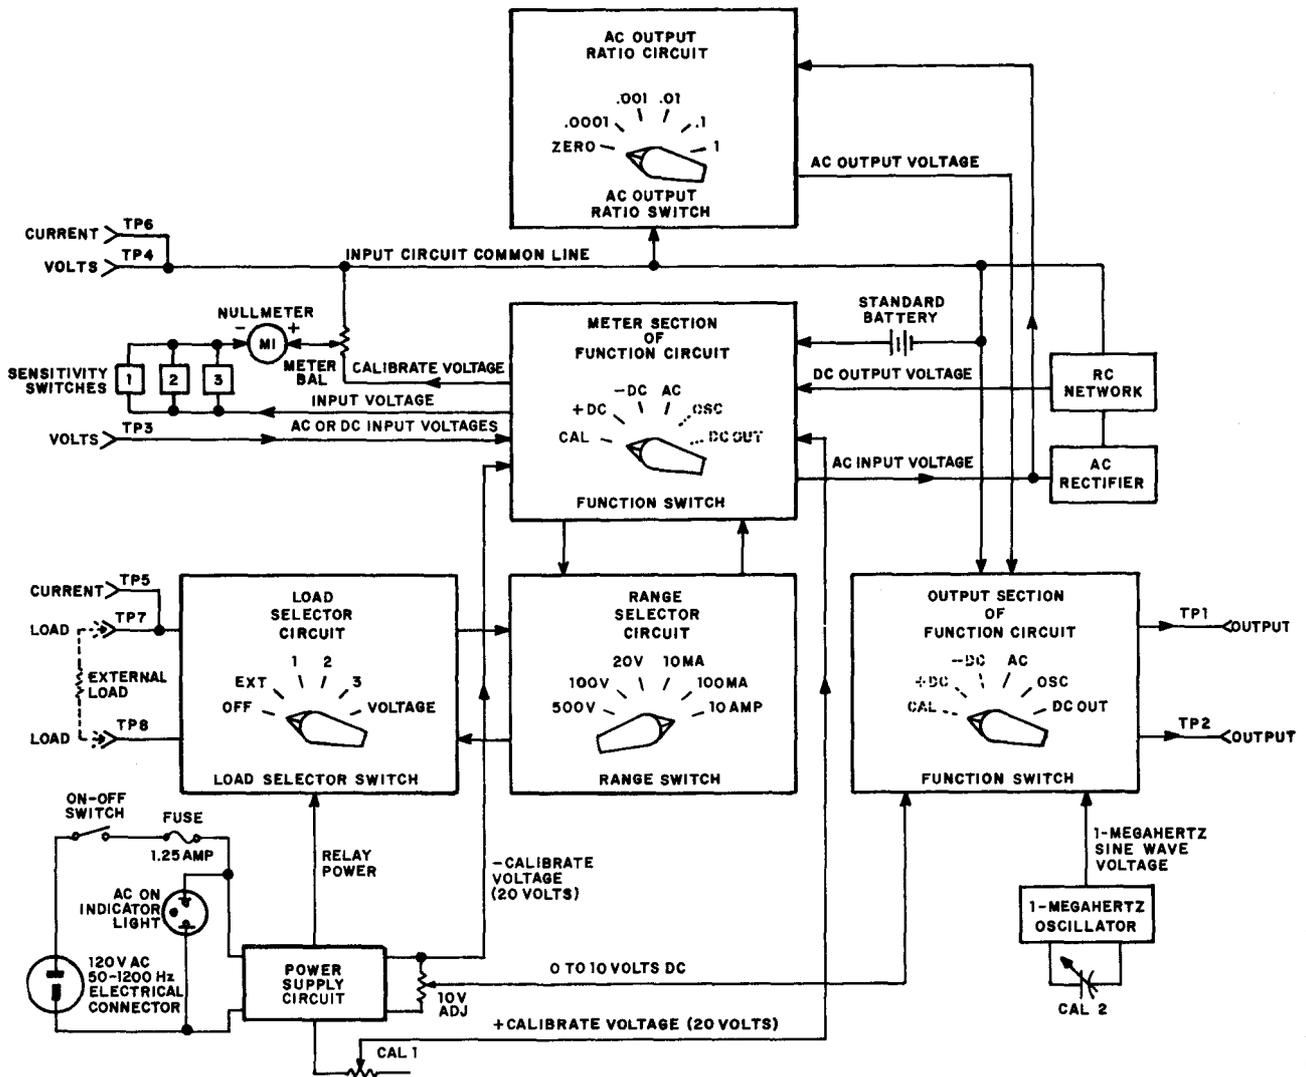

Figure 7. Electrical test set-block diagram.
(2) Power supply circuit. A block diagram of the test set is shown in figure 7. The internal power supply operates from 120 volts AC, 50 Hz to 1.2 KHz. When the ON-OFF switch is closed, AC ON indicator light illuminates and power is applied to the power supply. The power supply produces relay power which is applied to the load selector circuit to condition relays for an external load. Another voltage produced is the 0 to 10 volt which is used to compare with the standard battery voltage. Finally, the power supply produces a 20-volt calibrate voltage which is applied to the function circuit.
(3) Calibration. Before each use, the
maintenance technician should check the standard battery to see that it was calibrated by a calibration team within the past 90 days. The voltage output of the standard battery is recorded on the battery by the calibration team and is normally near 10 volts. With the FUNCTION switch (fig 7) in the CAL position, the standard battery voltage is applied to one side of the null meter while the plus calibrate voltage is applied to the other side and CAL 1 variable resistor is adjusted for a zero reading on the null meter. This calibrates the test set.
(4) Meter circuit. Input voltages to be measured are applied to TP3 (fig 7), through the meter section of the FUNCTION switch, through three pushbutton SENSITIVITY switches, to one side of the null meter. Each of the three SENSITIVITY switches provides a different resistive input network to the meter and switch 3 gives maximum meter sensitivity. A calibrate voltage from the power supply is applied to the other side of the null meter through the meter BAL variable resistor. The meter BAL resistor contains a calibrated dial. This dial is adjusted until the meter is balanced (reads zero) and the voltage measured is determined from the dial setting.
(5) Range selector circuits. This circuit consists of a six-position switch (fig 7) and associated voltage dropping resistors. It functions along with the load selector to provide the correct circuit path to the null meter. When voltage is measured, the dropping resistors supply only a portion of the input to the meter. For current measurements, additional resistors are added into the circuits by the LOAD SELECTOR switch.
(6) Load selector circuit. The load selector circuit (fig 7) operates in conjunction with the range selector to provide the correct circuit path and resistive load for the selected current range. The current to be measured is applied to TP5 and TP6. Positions 1, 2, and 3 correspond to positions 10 ma, 100 ma, and 10 amp of the range selector which determines the maximum current that can be measured with the null meter. The VOLTAGE position is used when measuring voltage and EXT position is used for connecting an external current at TP7 and TP8. When placed to OFF, the switch breaks all voltage and current circuits to the null meter.
(7) Function circuit. This circuit is divided into a meter section and an output section. The meter section provides various connections to the null meter, while the output section provides output circuit connections to TP1 and TP2. In the CAL position, the standard battery and pulse calibrate voltages are applied